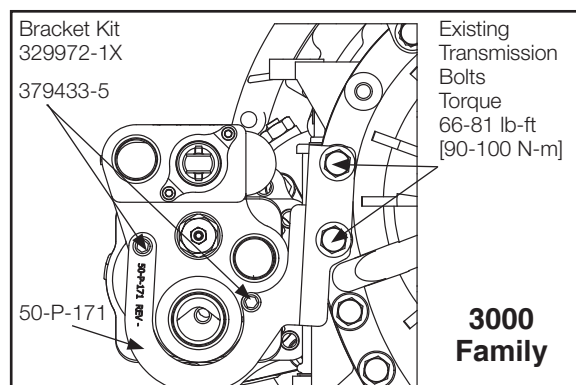

Figure 9
2. Install bracket to transmission using the existing transmission bolts in approved locations (**Fig. 9**). Slightly tighten, but do not fully torque to allow alignment of all mounting holes.